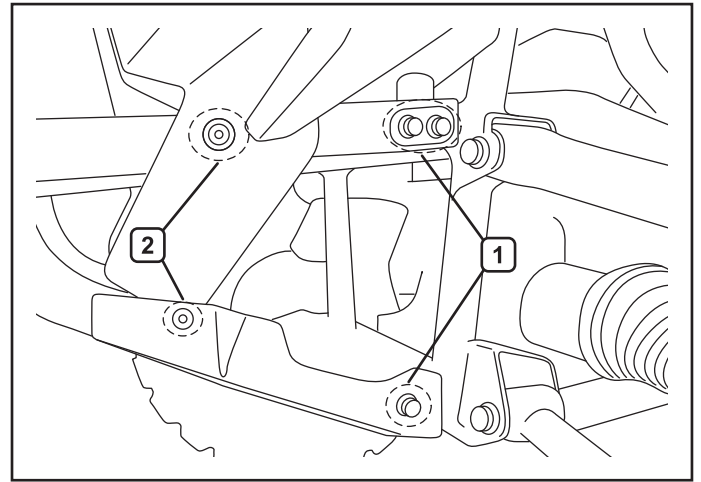

Figure 1.
1. Remove front bumper from your machine by removing 10 bolts (1) and (2) as marked in figure 1.